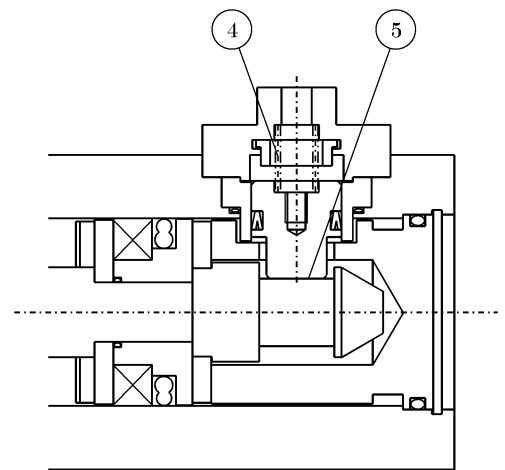

Fig.2
- (b) When the piston of cylinder further comes closer to its stroke end and the groove ⑤ of sleeve matches to the tail of stopper piston, the stopper piston drops back to the groove ⑤ due to expansion force of spring ④, generating an effect of locking the piston of cylinder. (Fig. 2)